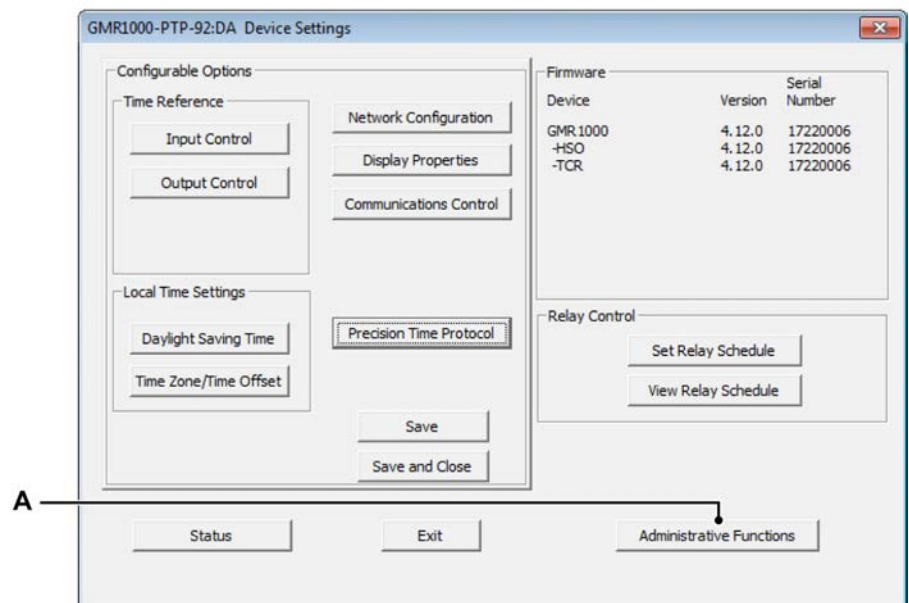

Figure C.70: GMR1000 PTP Device settings
- 7 Finally, close the Advanced (data sets) and PTP - Precision Time Protocol windows. This will bring back the GMR1000 PTP device settings window (see Figure C.70).
- 8 As the IRIG signal contains no date, this needs to be entered manually. Open the **Administrative Functions** dialog with the **Administrative Functions (A)** button (see Figure C.70).